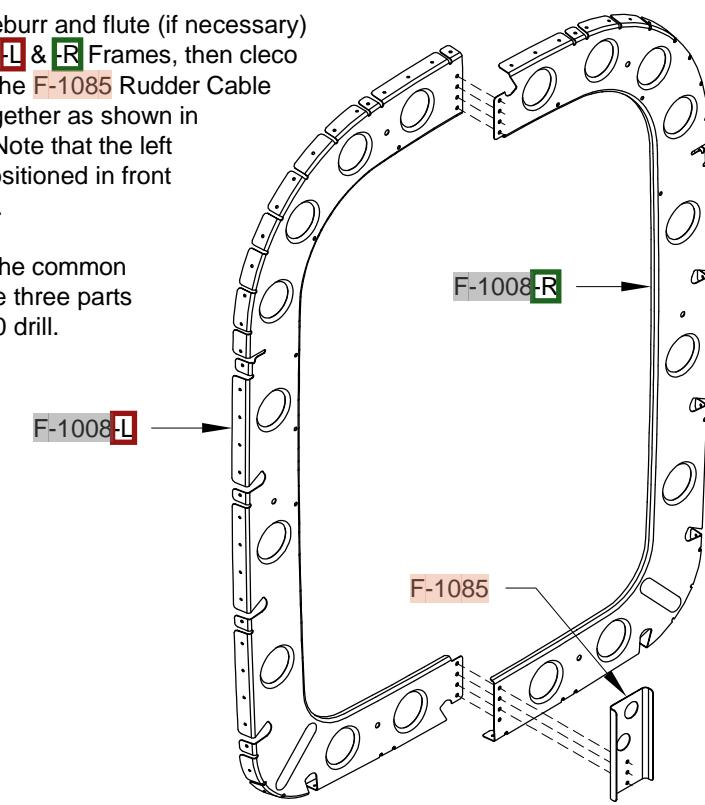

FIGURE 4: ASSEMBLING THE F-1008 FRAME
Step 4: Deburr and flute the F-1007-L & R Frames, then cleco them together as shown in Figure 4. Again, the left frame is positioned in front of the right.
Step 5: Final-Drill the two 3/16" holes, indicated in Figure 4, to 5/8" using a Unibit step drill.